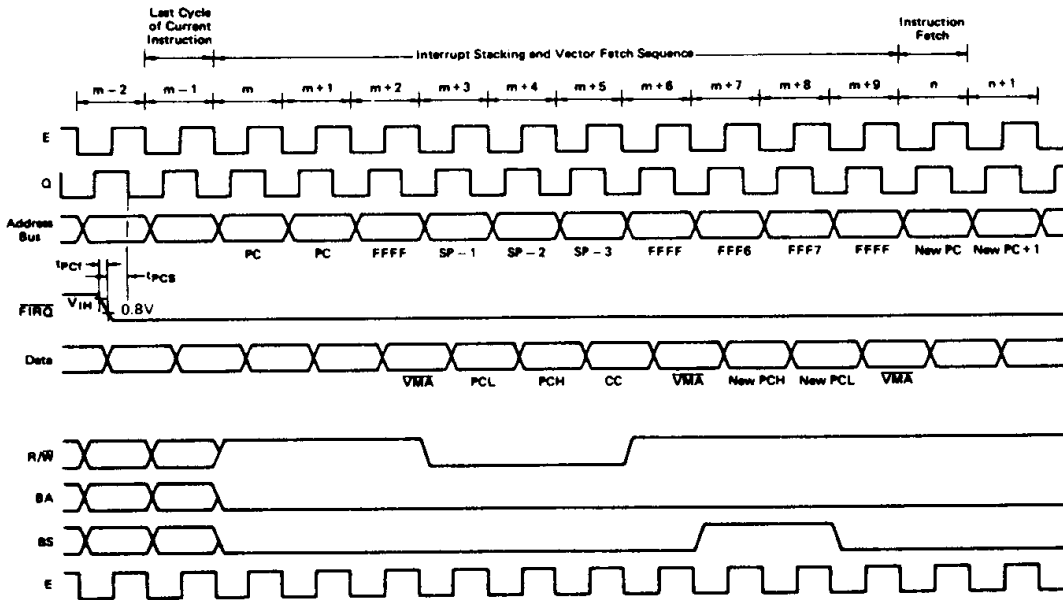

Figure 10  $\overline{\text{FIRQ}}$  Interrupt Timing
A “Low” level on this input pin will initiate a fast interrupt sequence provided its mask bit (F) in the CC is clear. This sequence has priority over the standard Interrupt Request ( $\overline{\text{IRQ}}$ ), and is fast in the sense that it stacks only the contents of the condition code register and the program counter. The interrupt service routine should clear the source of the interrupt before doing an RTI. See Fig. 10.